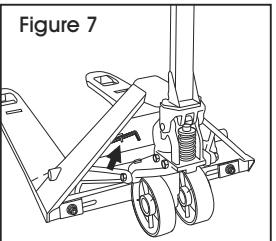

Figure 7
5. Return the Allen wrench to its clip on the truck body. (See Figure 7)